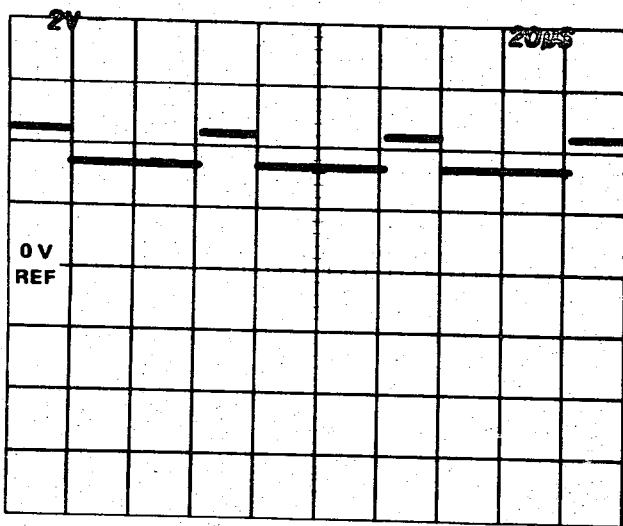

Fig. 6-6. Probe to Pin 15 of U455 or Pin 15 of U470.
12. Push the 7S14 MAN button in. Move the probe to Pin 15 of U455 on the Horizontal board. Trigger the test oscilloscope for a waveform similar to that shown in Fig. 6-6.
13. Move the probe to Pin 15 of U470 on the Horizontal board. Trigger the test oscilloscope for a waveform similar to that shown in Fig. 6-6.